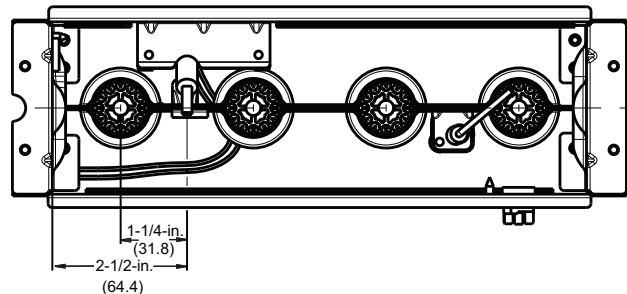

Fig. 7 - Igniter Position - Top View
4. Verify igniter to burner alignment. See Fig. 7 and 8.